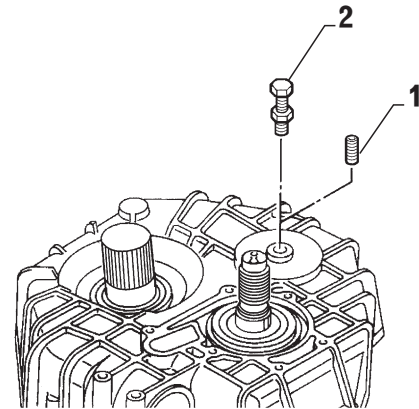

FIG. 5-5a
- Unscrew plug (item 1, Fig. 5-5a) from the housing.
- Screw in special tool (p/n 224.836.008 (458105)) (item 2, Fig. 5-5a) into intermediate shaft hole.
- Install mounting bolts (item 2 and 3 Fig. 5-5a) and torque them to 40 Nm (30 ft.lb.).